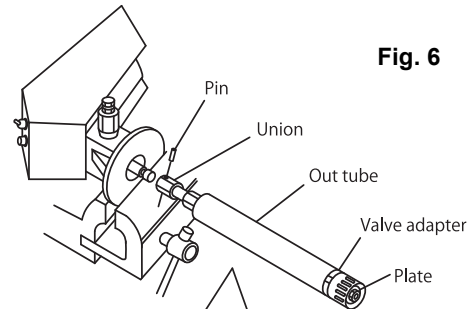

Fig. 6
- 4) Secure the pump assembly in a vise. (Fig.6)
- 5) Unscrew valve adapter. Pull the outer tube from the pump with the outer tube extended as far as possible. A roll pin will be exposed. Drive out the roll pin with a punch. Then unscrew the union and separate the pump from the motor. (Fig. 6)
- 6) Pull out the out tube. If only the valve adapter pulled out, unscrew the nut and remove the plate. Then pull out the out tube and screw the suction tube with pipe wrench (set on notched part of the suction tube). Pull out the pin and unscrew the union, and the lower pump can be separated from the motor. (Fig. 6, 7)
- 15) Insert the suction tube from opposite side of valve adapter. Pull out the union from the suction tube and screw it to the connecting rod of the motor side. Adjust the position of pin-hole of both the suction and the union, and insert the pin. (Fig. 6)